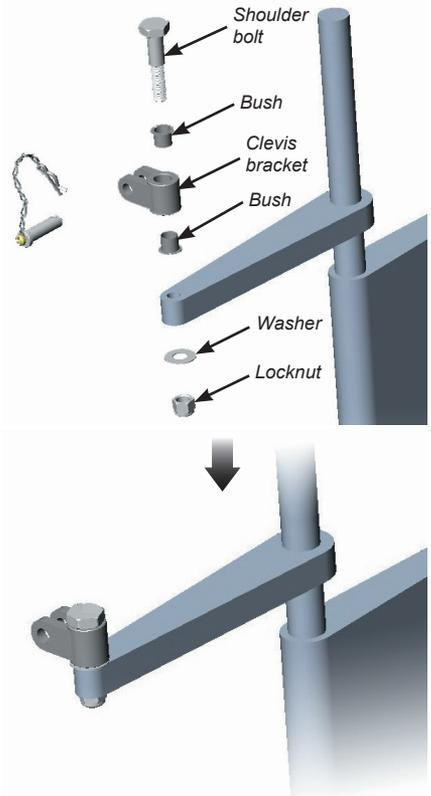

Fig B41 - Fitting the clevis bracket to the tiller
- iii) Fit the clevis bracket to the tiller as shown in Fig B41, ensuring that the plastic bushes, bracket, washer etc are fitted in the correct order.